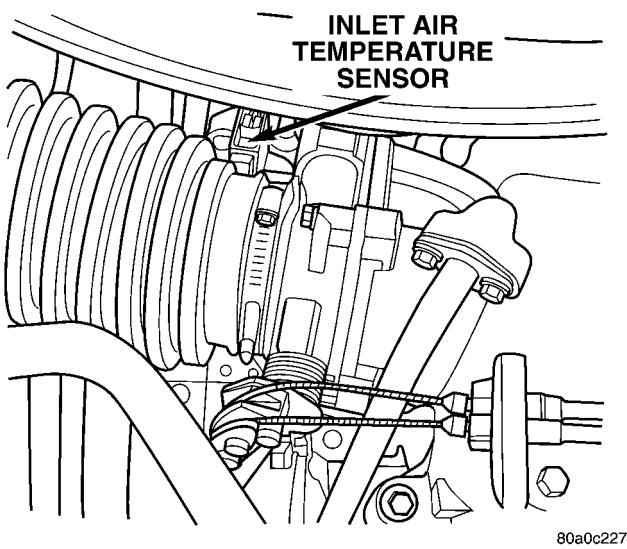

Fig. 16 Inlet Air Temperature Sensor
(2) Disconnect the inlet air temperature sensor (Fig. 16).
- (1) Install air box into vehicle and onto the locating pin.
- (2) Install bolt to hold air box to the upper radiator cross member.
- (3) Install the inlet hose to the throttle body.
- (4) Connect the inlet air temperature sensor (Fig. 16).
- (5) Connect the negative battery cable.